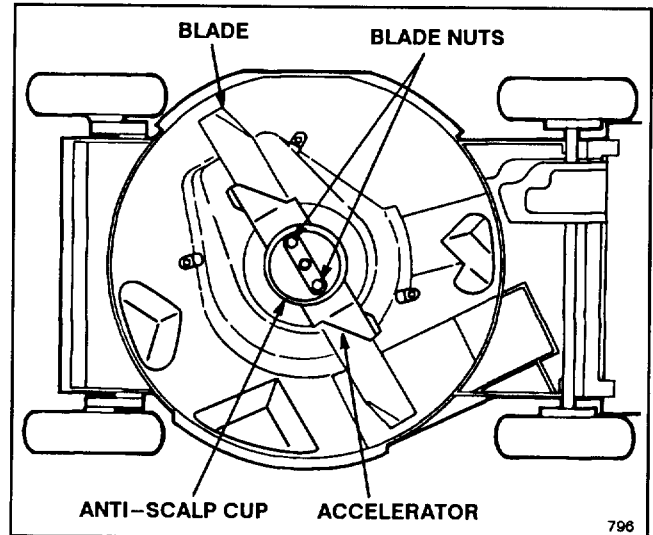

Figure 25
3. Tip mower on its right side (Fig. 25).
5. REMOVING BLADE—Grasp end of blade using a rag or thickly padded glove. Remove blade nuts, anti-scalp cup, accelerator, and blade (Fig. 25).